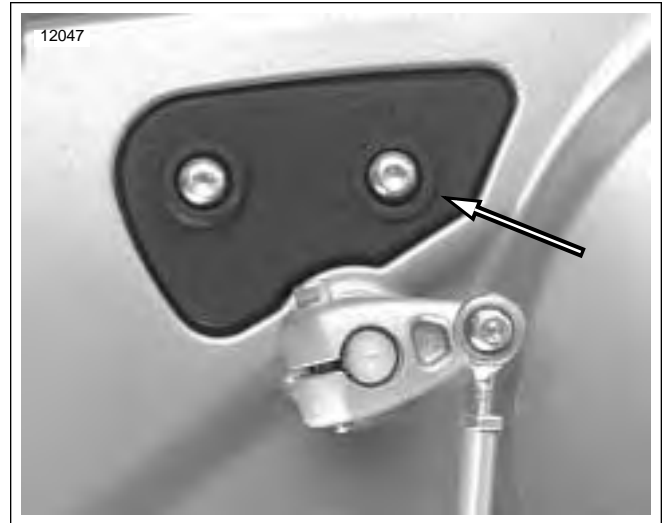

Figure 1-32. Primary Chain Inspection Cover
See Figure 1-32. Measure primary chain tension through the inspection cover opening. Adjust primary chains not meeting vertical free play specifications.
1. See Figure 1-32. Remove two fasteners with captive washers and primary chain inspection cover with gasket from primary cover.
4. See Figure 1-32. Install primary chain inspection cover and **new** gasket to primary cover using two fasteners with captive washers. Tighten fasteners to 84-108 in-lbs (10-12 Nm).